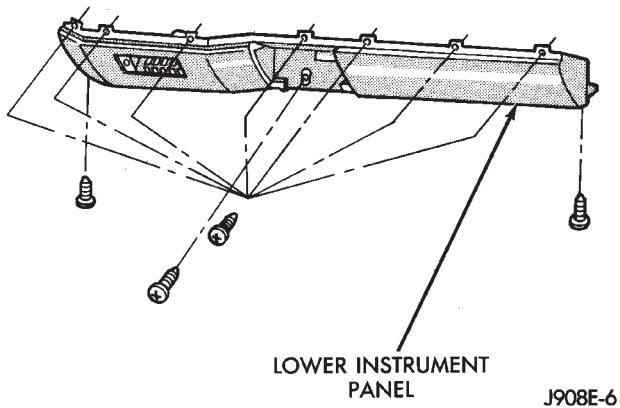

Fig. 4 Lower Instrument Panel/Knee Blocker Remove/Install
- (1) Disconnect battery negative cable.
- (2) Remove tilt lever (if equipped).
- (3) Remove lower instrument panel/knee blocker (Fig. 4).